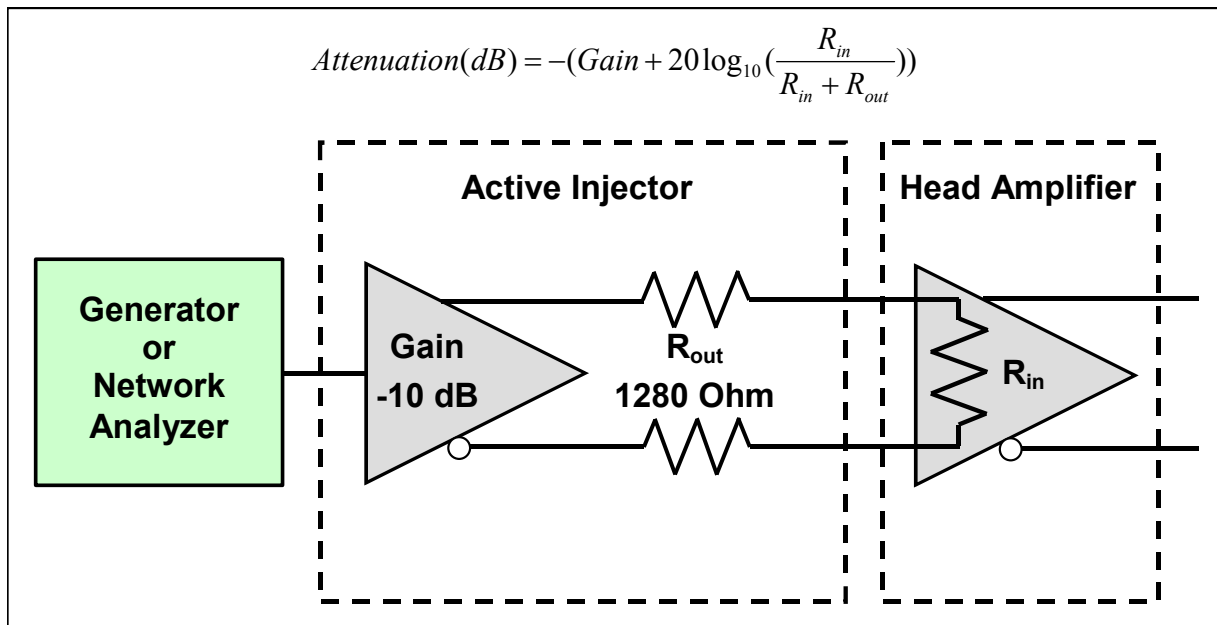

Figure 1: Active Injector Attenuation
- **Single Ended Input to Differential Output:** 38 dB typical with 50 Ohm termination (see **Figure 1** for more details)